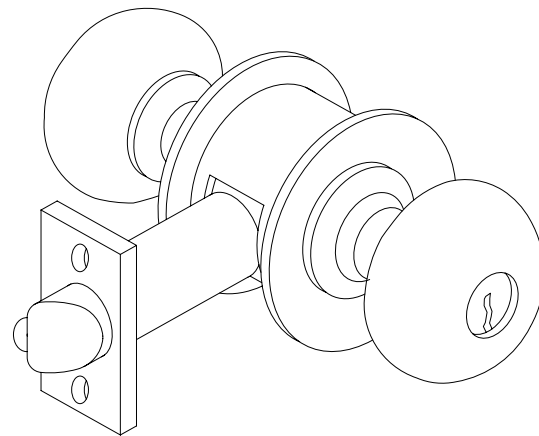

FIGURE 9c
3. The Cylindrical Lock, Figures 9c and 9d, has the cylinder through the knob or lever. The assembly must be tight on the door without excessive play to avoid binding.
- 3a. The Bored Cylindrical Lock, Figure 9c, is installed in a door having one hole through the thickness of the door and another in from the edge.